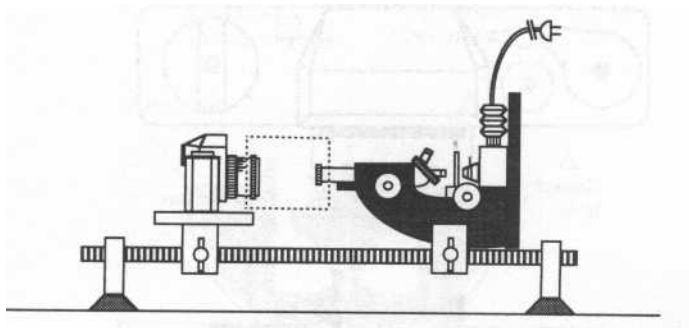

Figure 13-9 Setup for photomicrography on an optic bench with lens on camera. (Wight, 1993)
**1** A camera with its own lens used with the microscope ocular (Fig. 13-9). This method is fairly simple in concept, but can be difficult to do and works best with monocular microscopes. After focusing on the subject, you place a white card above the ocular and move it back and forth until you locate the point at which the cone of light is at its minimum diameter. Place the camera so that the front surface of the lens is at that point. Have the lens focused for infinity and the diaphragm wide open to minimize the possibility of vignetting. Enclose the gap between the camera and